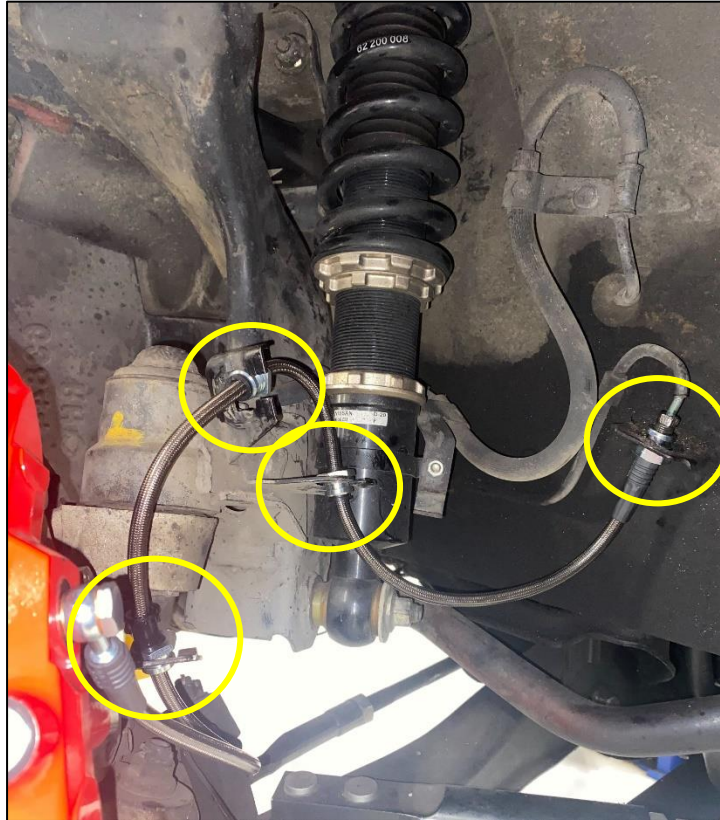

Figure 8
13. Remove the rest of the OEM Brake Line. It will be held on by (4) four retaining clips. Remove the Retaining Clips with Pliers and unbolt the Soft Line from the Hardline on the Frame. More Brake Fluid will most likely leak out. *Figure 8.*